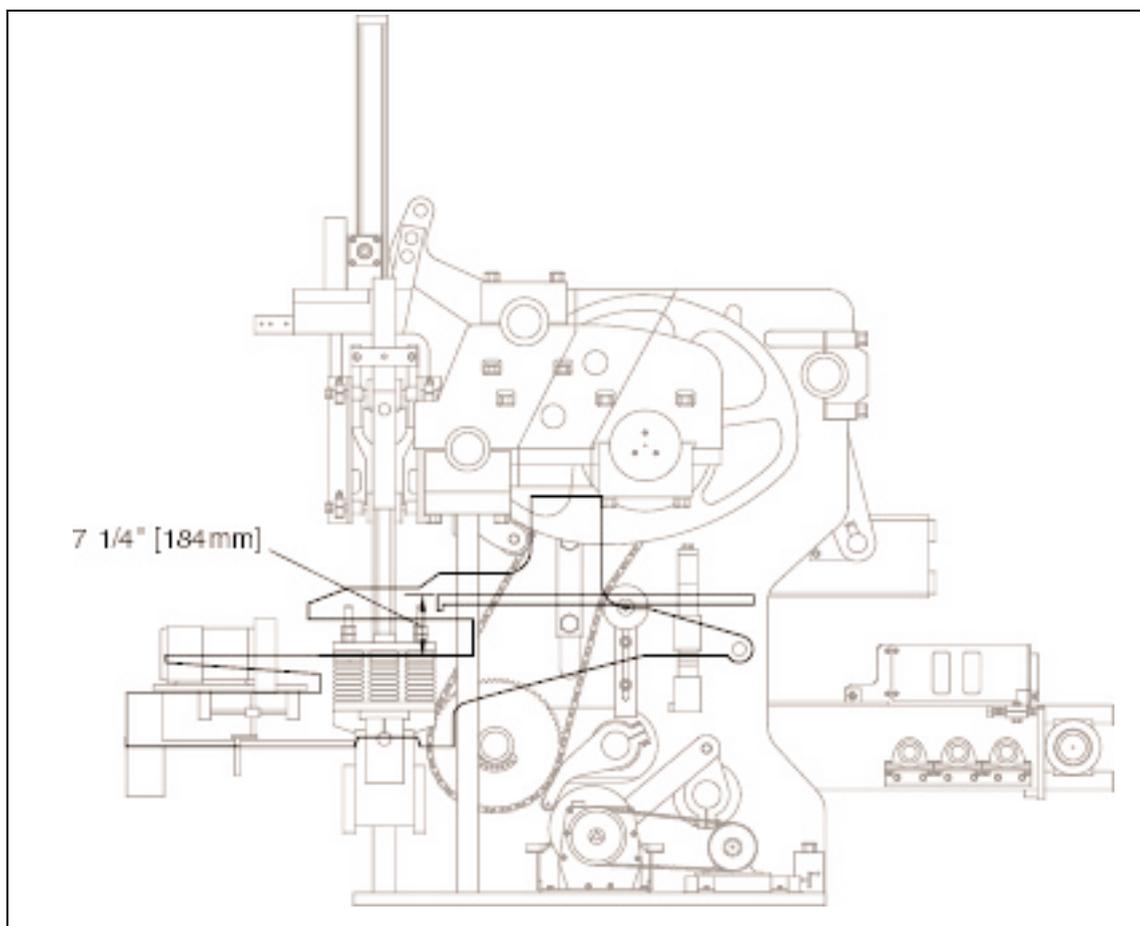

Figure 4.11 APRON PLATE ABOVE MOLD THROAT ADJUSTMENT.
- 4.1.4 Reconnect autofeed linkage and adjust so that the top of the apron plate is **7 1/4" [184mm]** above the mold throat at the lowest position of the autofeed (see figure 4.11). To adjust, lower or raise the autofeed until apron plate is in correct position.